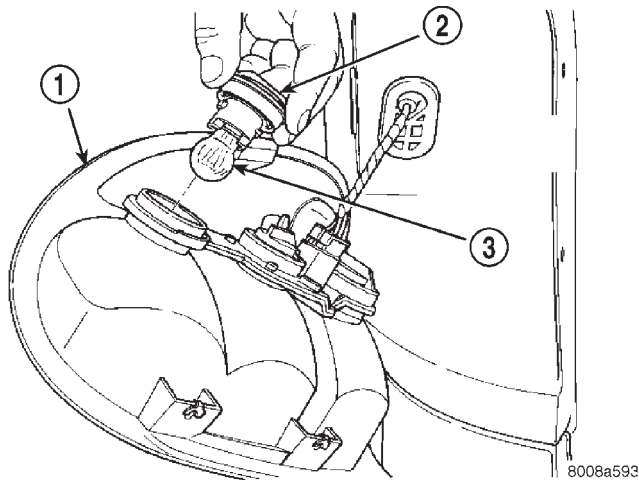
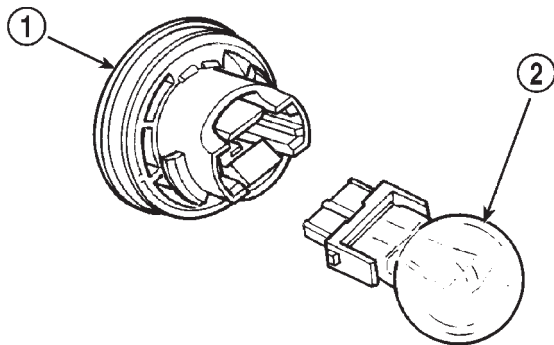

Fig. 4 Tail, Brake, Turn Signal and Back-up Lamp Bulb
Fig. 5 Pull Bulb From Socket
- (1) Release liftgate latch and open liftgate.
- (2) Remove screws attaching tail, brake, turn signal and back-up lamp to liftgate opening.
- (3) Separate inner end of lamp from quarter panel.
- (4) Disengage hook holding outer end of lamp to quarter panel opening.
- (5) Separate lamp from quarter panel.
- (6) Rotate lamp socket counterclockwise one quarter turn (Fig. 4).
- (7) Pull socket from back of lamp.
- (8) Pull bulb from socket (Fig. 5).
- (1) Align key on bulb base to groove in socket and insert bulb into socket (Fig. 5).
- (2) Insert socket into back of lamp.
- (3) Rotate lamp socket clockwise one quarter turn.
- (4) Engage hook to hold outer end of lamp to quarter panel opening.
- (5) Place lamp in position on quarter panel.
- (6) Install screws attaching lamp to liftgate opening.